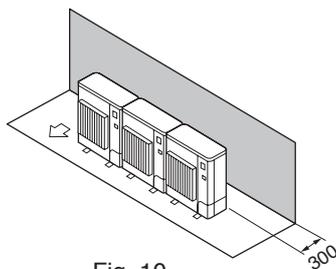

Fig. 10
(1) Obstacles at rear only (Fig. 10)